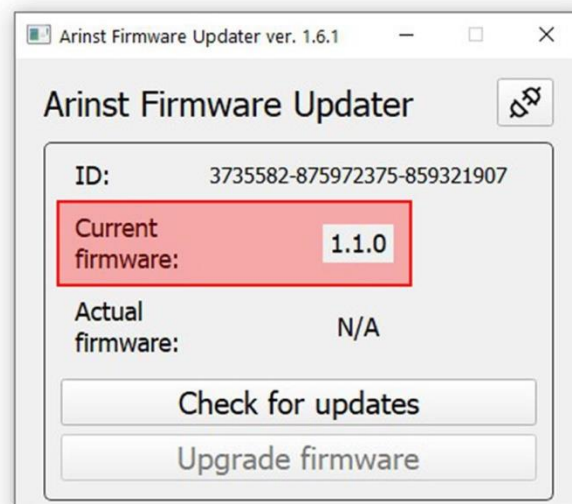

Figure A2.7 - Displaying the device firmware version
2.10. After downloading and installing the new firmware, the application will display the latest installed version of the device software (Figure A2.7)